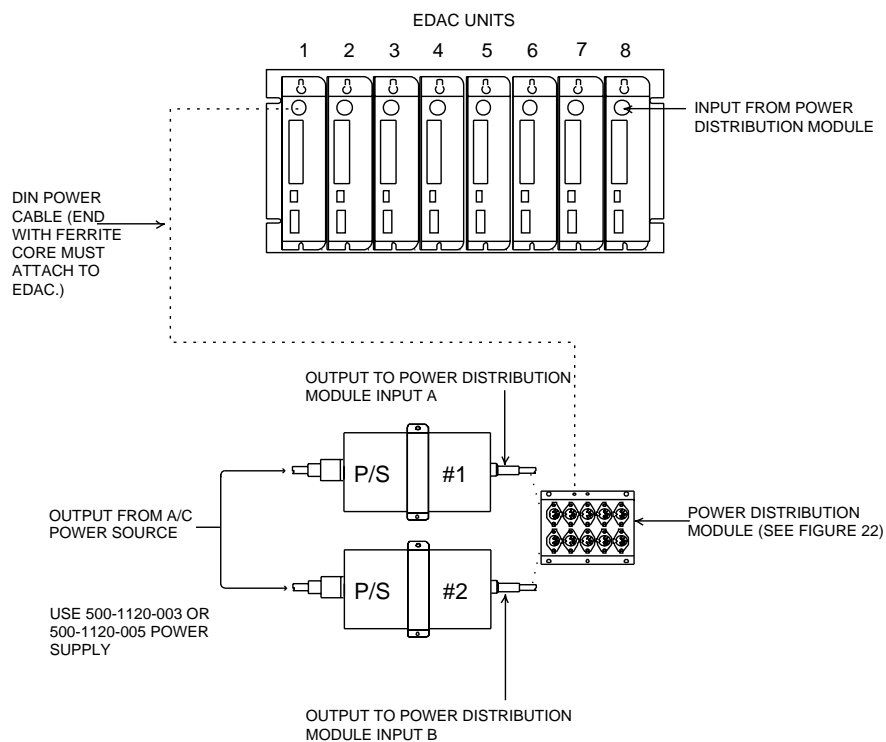

Figure 23. Wall Mount Installation with Power Distribution
- f. Connect DIN cables (Figure 23) according to chart in Table 11. Ferrite core end must attach to EDAC.
- b. Connect DIN cables (DTI P/N 450-1102-001) from module outputs to EDAC units as needed. The ferrite core end must connect to the EDAC (see Figure 23).